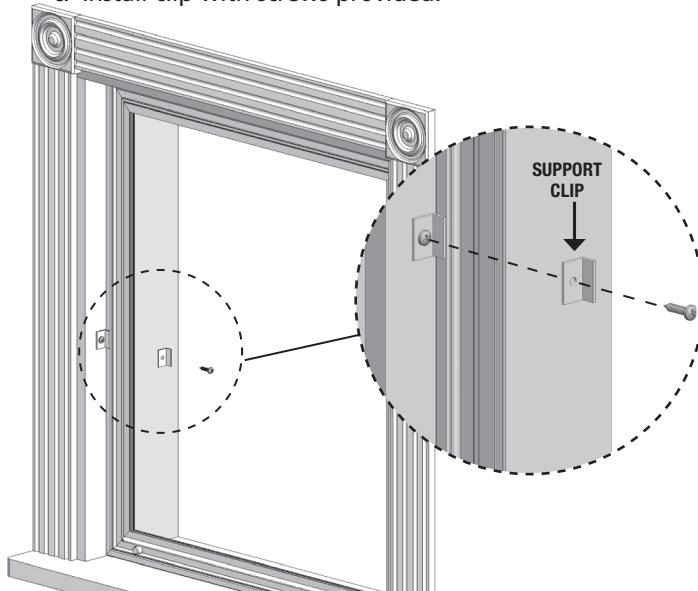

FIGURE 3A
- 4 Optional—For optimal seal, apply "L" shaped foam seal pads to top corners where top and side channels connect. Apply straight foam pad to bottom of each side channel to fill any gaps for out-of-square openings (figure 3A and 3B).